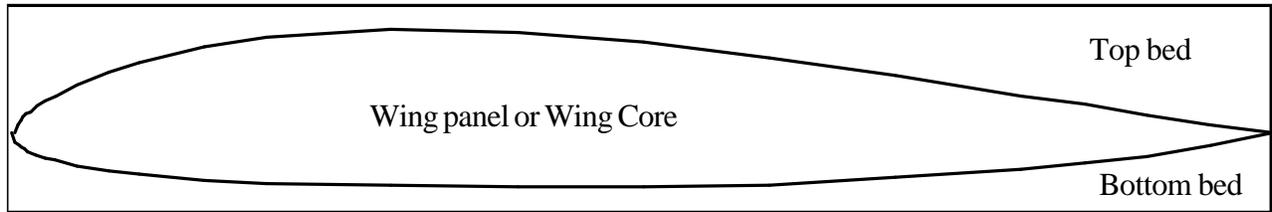

Figure 2
Remove the hairs and zigzags from the wing cores and beds by lightly rubbing on them with a scrap piece of foam. Lay the bottom right and left wing beds on a flat surface. Set the wing cores on the beds and lightly block sand the wing panels (cores) with #320 paper and round the leading edge (LE). (See Figure 2)